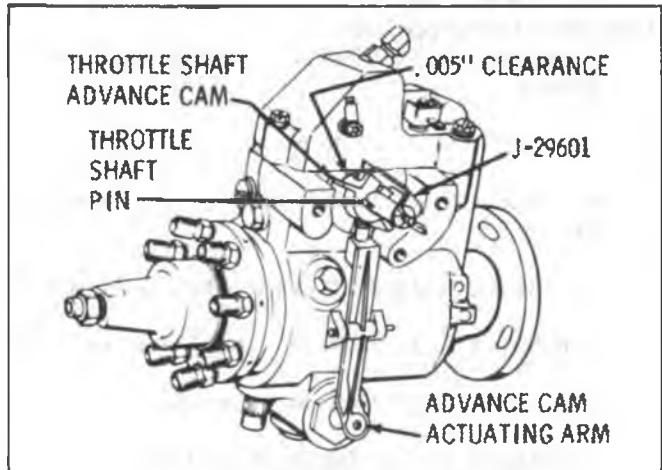

Fig. 2-25 Face Cam Tool, J-29601
9. (A.) On all models with external advance lever, install the tool J-29601 on the throttle shaft, tighten the thumb screw, and remove the tool and the vacuum switch drive pin (Fig. 2-25).
(D.) On external advance models, install tool J-29601 to position face cam and insert a .005" feeler gage between the white washer and housing (Fig. 2-25). Push throttle shaft into housing to remove clearance and torque face cam screw to 31 N·m (30 in. lbs. and secure with Loc-tite 290 or equivalent).